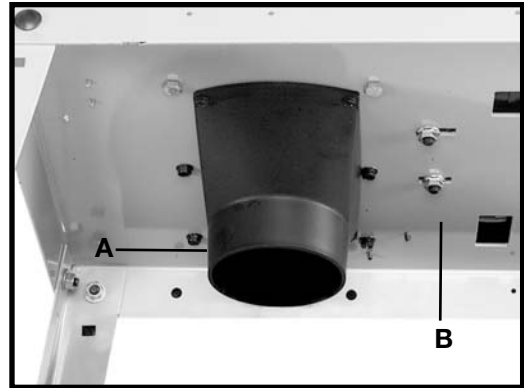

Fig. 11
Attach the dust chute (A) Fig. 11 to the bottom of the top shelf (B) using the four 5/8" self-tapping screws.